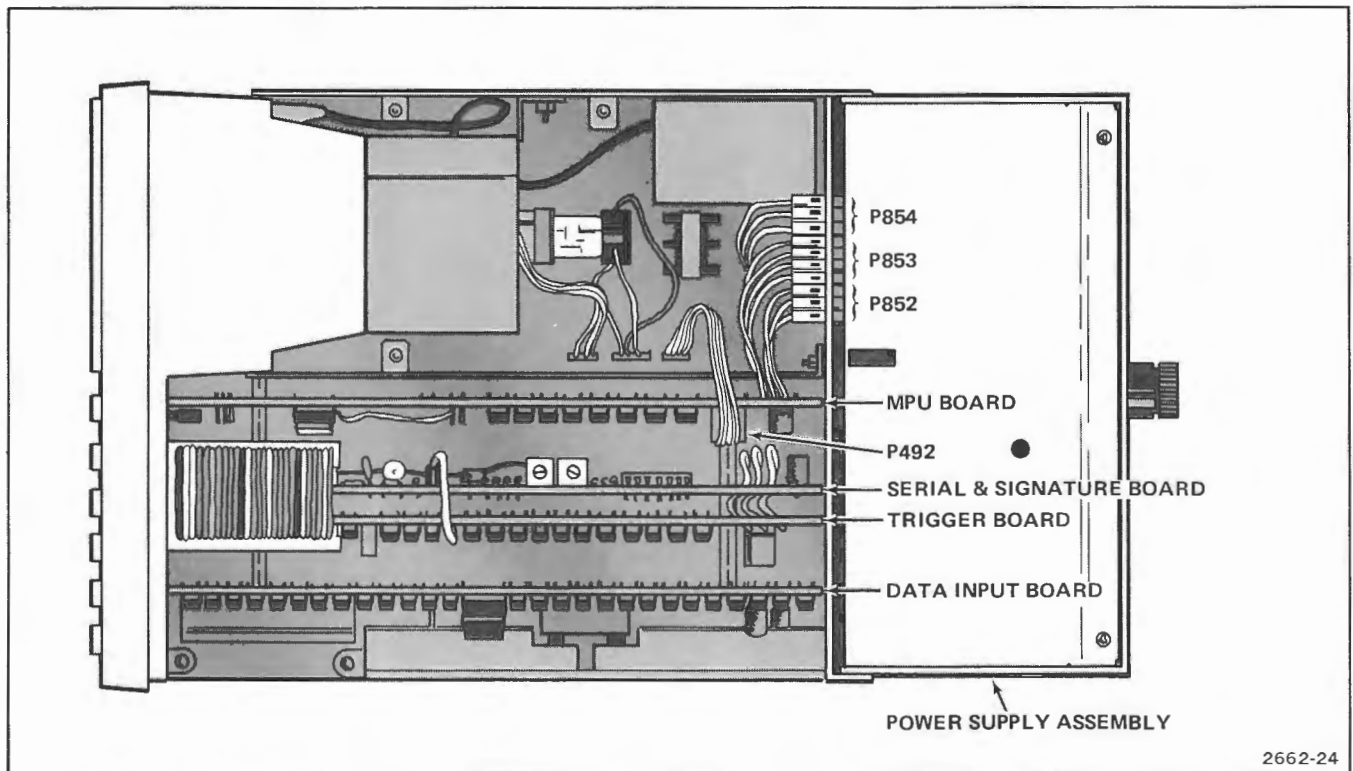

Figure 5-8. 308 top view.
5. Disconnect P852 and P853 from the power supply and disconnect P492 from the MPU board (see Figure 5-8).
3. Disconnect P852, P853, and P854 from the power supply (see Figure 5-8).